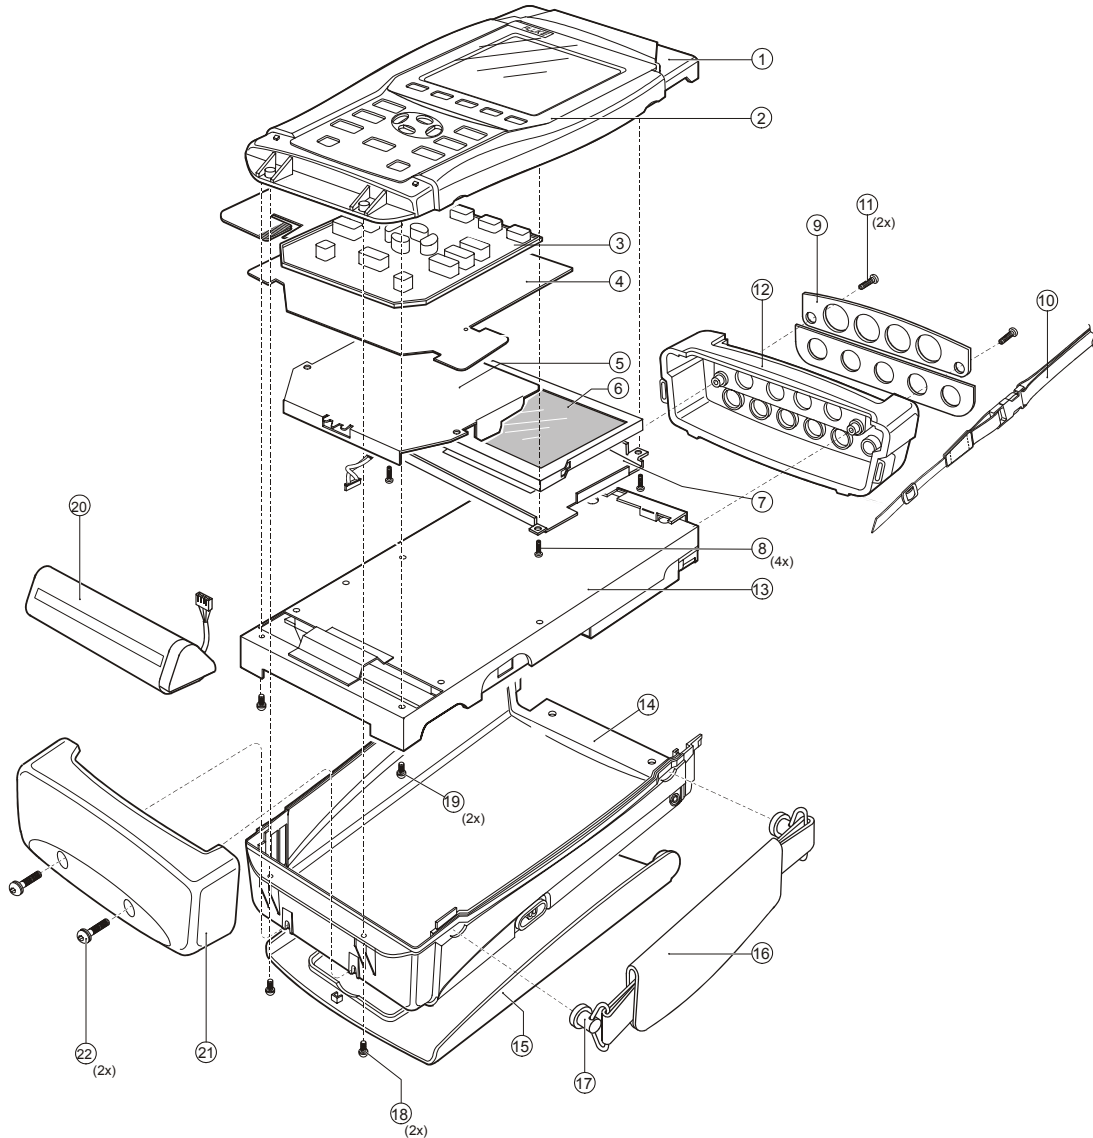

Figure 6-6. Final Assembly Details
Use the following procedure to remove the tilt stand and hang strap (Figure 6-6, item 15 and item 10).
The side-strap (figure 6-6, item 16) can be attached at the right or left side of the Analyzer. Use the following procedure to replace the strap, or to change the strap position.
1. To remove the strap, unfold the strap ends (provided with Velcro tape), and pull the ends out of the strap holders (item 17).
Referring to Figure 6-6, use the following procedure to remove the main PCA unit.
There are no serviceable parts in the display assembly. Referring to Figure 6-6, use the following procedure to remove the display assembly.
The LCD window/decal (Figure 6-6, item 2) is glued on the top cover. To replace it do the following:
Referring to Figure 6-6, use the following procedure to remove the keypad and the keypad foil.
Reassembling the Analyzer is the reverse of disassembly. However you must follow special precautions when reassembling the Analyzer. Refer to figure 6-6.